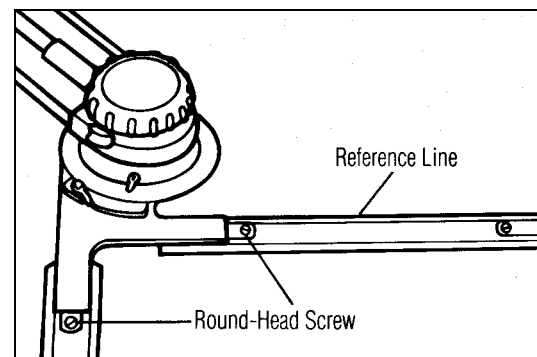

Figure 3
2. The scale can readily be released by means of the scale wrench as shown in Fig. 3. With the pin side of the wrench downwards, slip the wrench over the screw \emptyset and turn clockwise, thus pressing the curved section B strongly against section A of the scale chuck. If no scale wrench is available the scale can be removed as follows: steady the drafting head with the left hand while the outer edge of the right hand strikes the scale a sharp blow with a sliding movement away from the head.
C. Aligning Scales_ (Figures 3 & 4)
2. Now index the head 90 degrees clockwise, as shown in Fig. 3, and adjust the vertical scale in the same manner and along the same reference line.